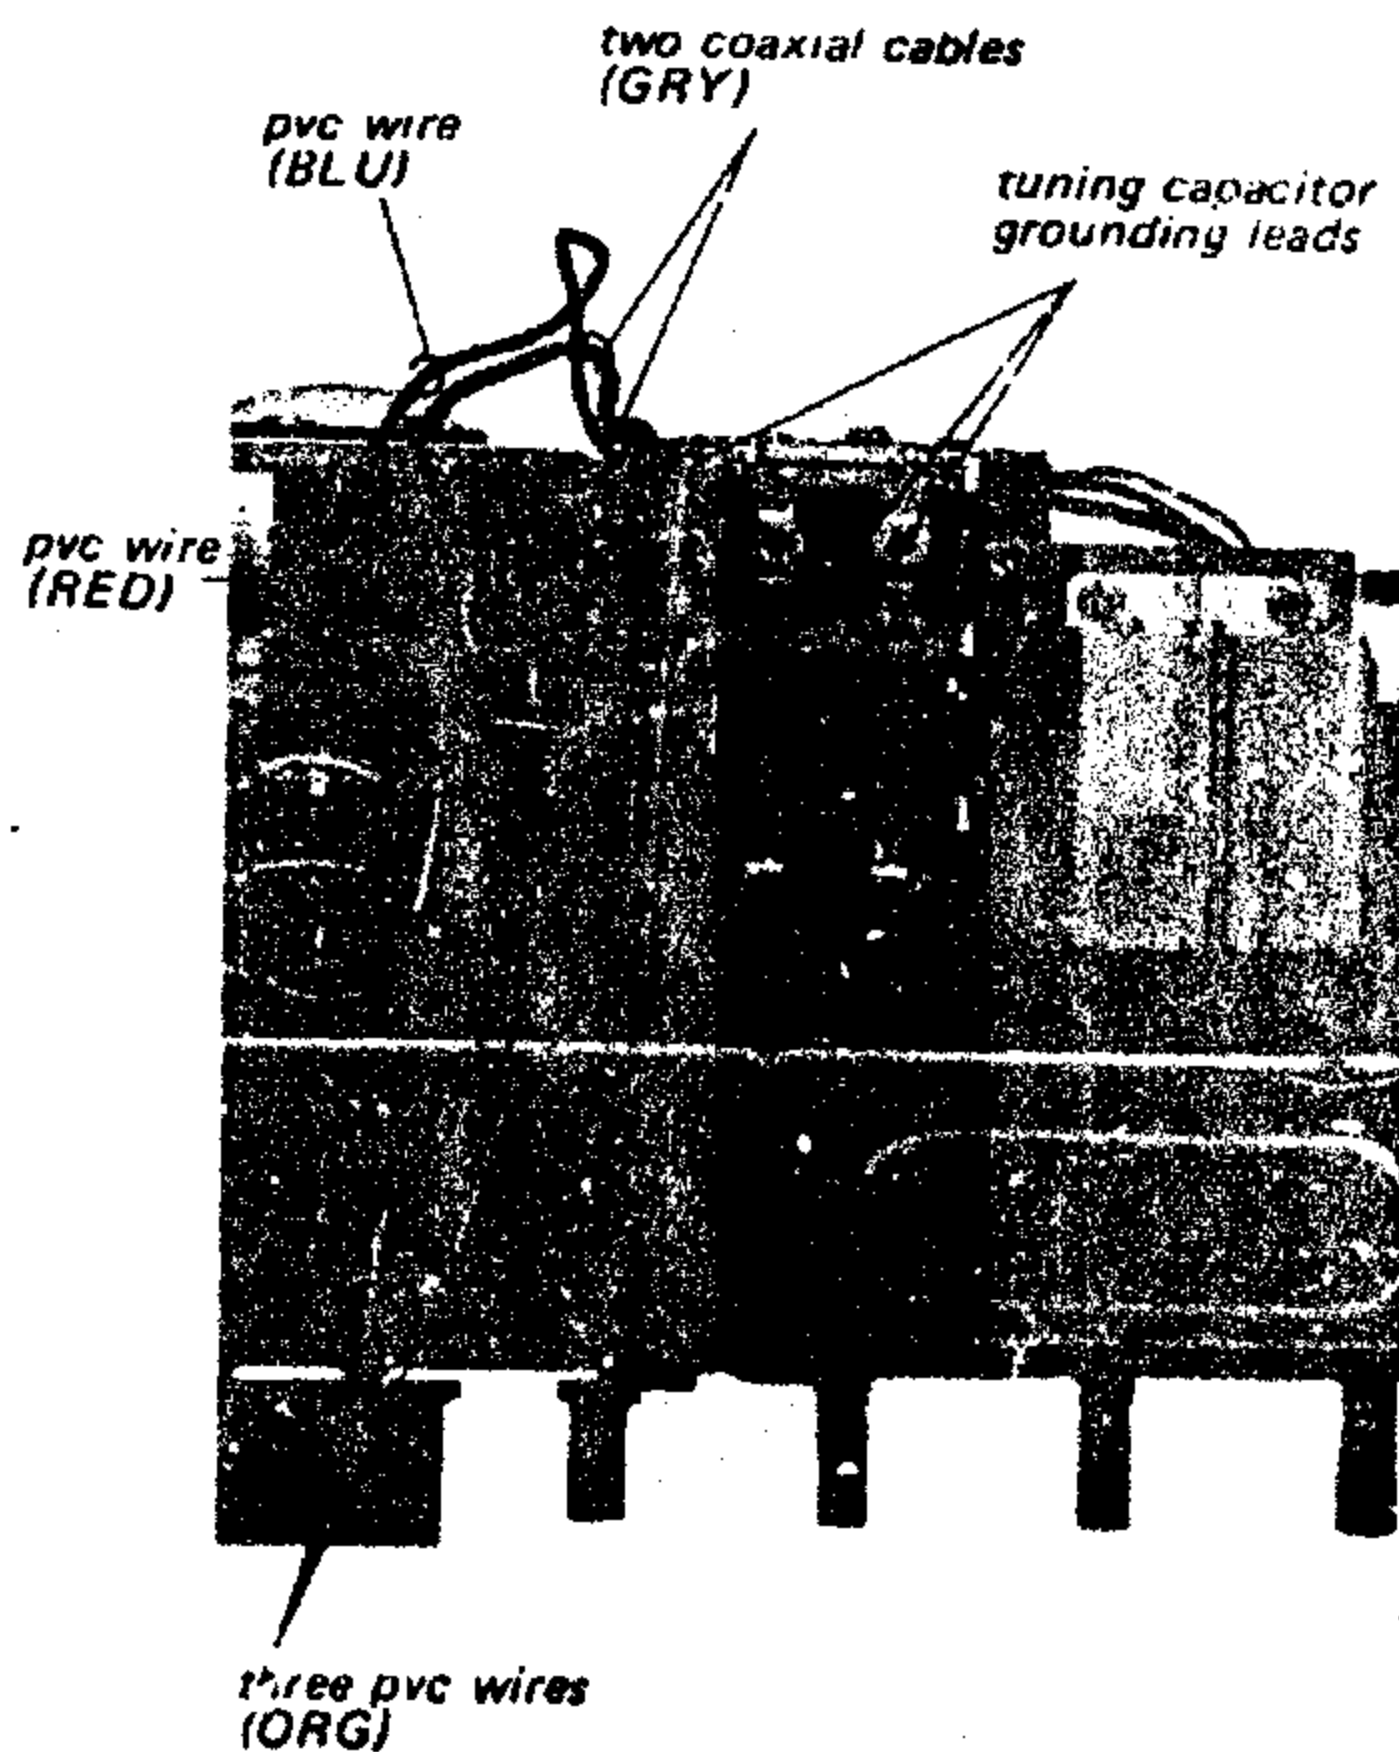

Fig. 2-8
2. Unsolder the ten lead wires shown in Fig. 2-8.
1. Unsolder the ten lead wires in Fig. 2-8 as sw tuner removal.